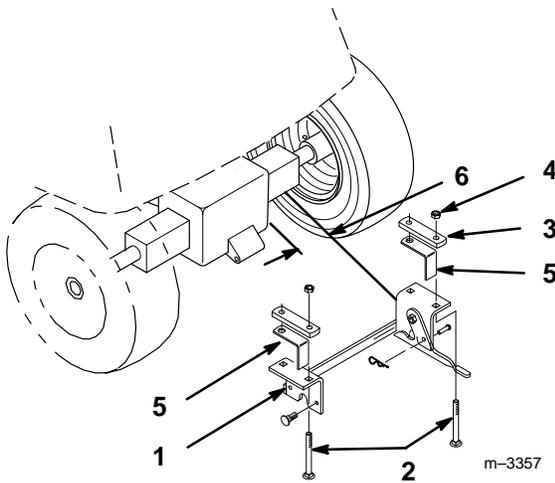

Figure 4
- Center hitch on axle housing and install with (4) 3/8 x 3-1/2" (89 mm) carriage bolts, (2) straps and (4) 3/8-16 locknuts as shown (Fig. 4).